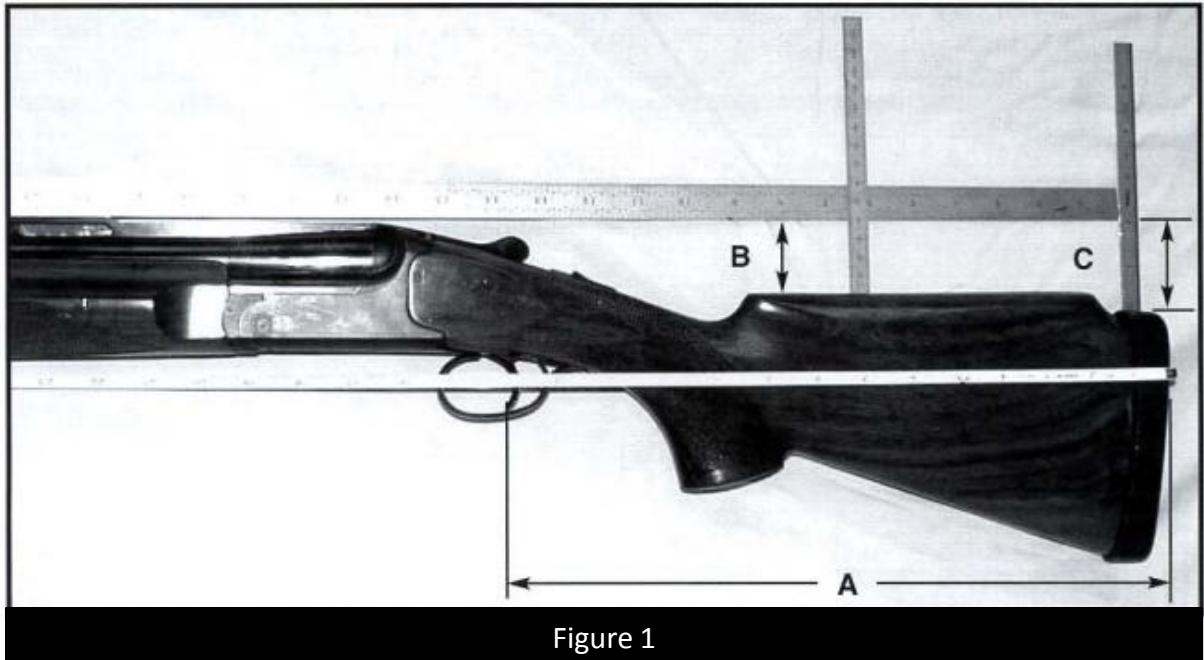

Figure 1
1. Measure your existing stock and record your data below. (Figure 1)